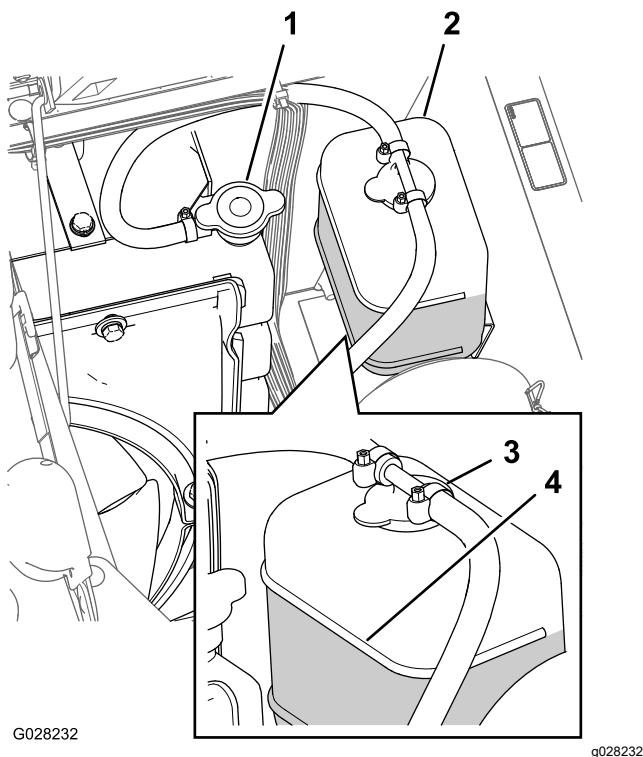

Figure 103
3. Carefully remove the radiator cap and the expansion-tank cap (Figure 103).
Note: The radiator should be filled to the top of the filler neck and the expansion tank filled to the Full mark on the tank (Figure 103).
5. If the coolant level is low, remove the expansion-tank cap and the radiator cap, and fill the expansion tank to the Full mark and the radiator to the top of the filler neck (Figure 103).
6. Install the radiator cap and the expansion-tank cap (Figure 103).
2. Wait until the engine is cool, then remove the radiator cap (Figure 103).
6. Remove the radiator cap (Figure 103).
8. Start the engine with the cap loose on the radiator (Figure 103).
10. Once the coolant has warmed up, top off the coolant level to the sealing surface of the cap and tighten the cap (Figure 103).
11. Open the expansion-tank cap and fill the tank with coolant to the Cold level (Figure 103).